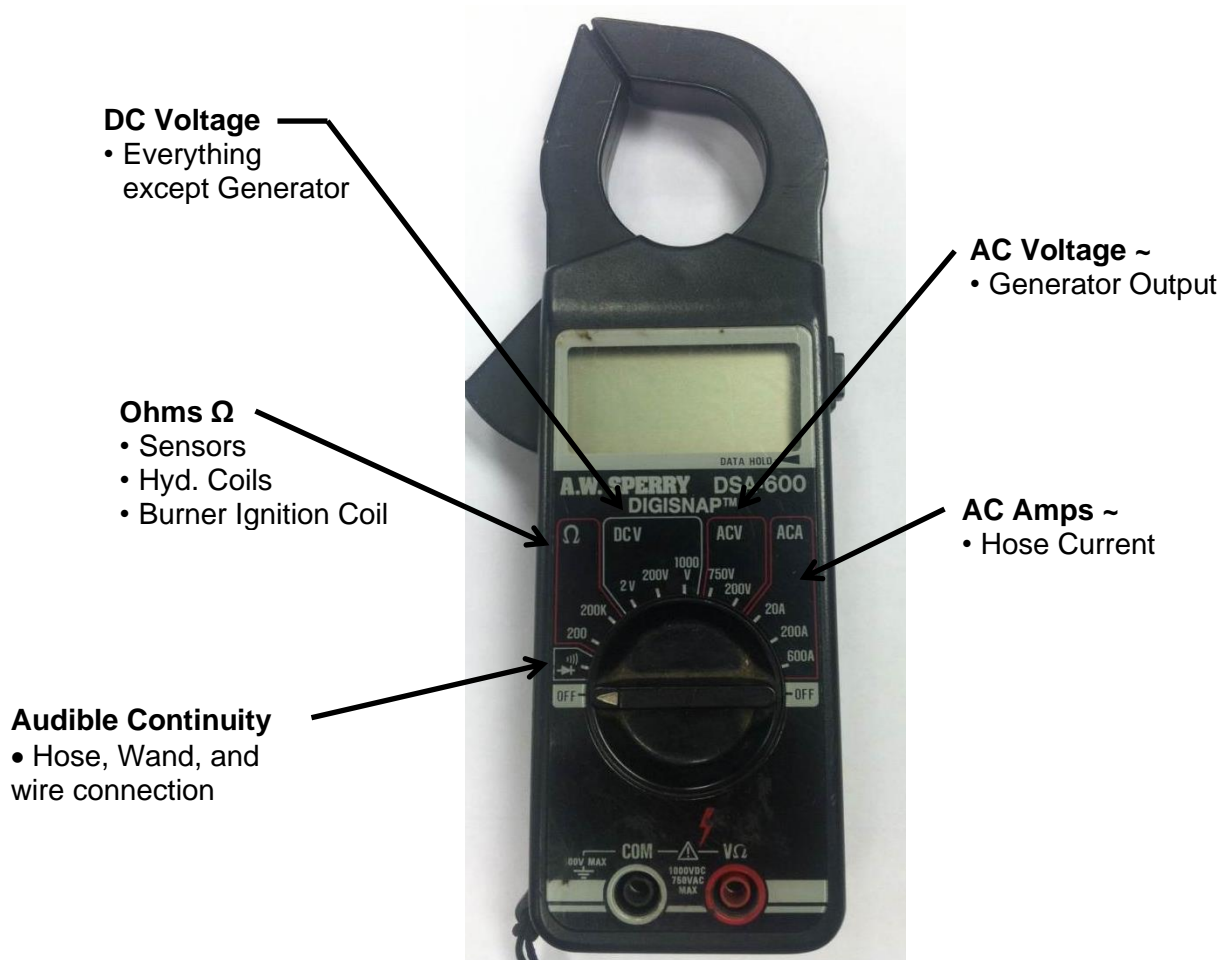

Figure 7-2 Clamp – On Amp Meter/Multimeter
The electric hose and wand uses 24-volt 3-phase alternating current (AC). The AC power is from the generator which hangs under the radiator. This system has no reference to ground so there is no possibility of electrical shock unless you are between 2 of the phases. **NOTE: ONLY CHECK AMPERAGE ON A HOSE WITH A CLAMP-ON AMP METER.** (See Figure 7-2 Clamp – On Amp Meter/Multimeter)
When checking the amperage of the electric hose **always use a clamp-on amp meter (See Figure 7-2 Clamp – On Amp Meter/Multimeter)**. The amperage in the hose can reach as high as 35 amps.